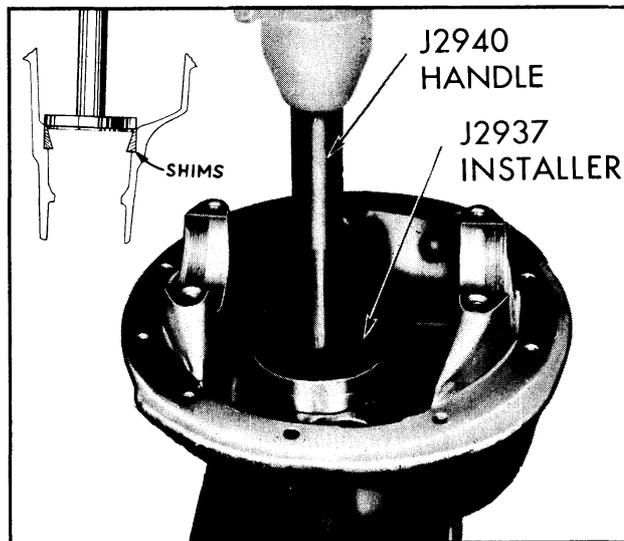

Fig. 6-25 Installing Rear Pinion Outer Race
2. Press outer race of rear bearing firmly in place against shims and shoulder in the carrier. (See Fig. 6-25)